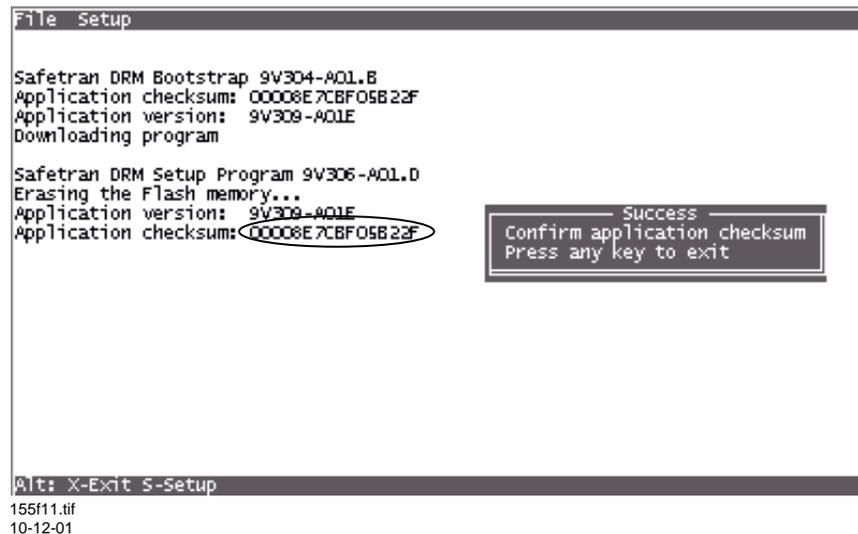

Figure 11. Setup Program Success Window
At completion of download, the **Success** window displays within the Setup screen (see figure 11).
Step 14 Verify that checksum displayed in Setup screen (circled on figure 11) is identical to checksum supplied with program disk.